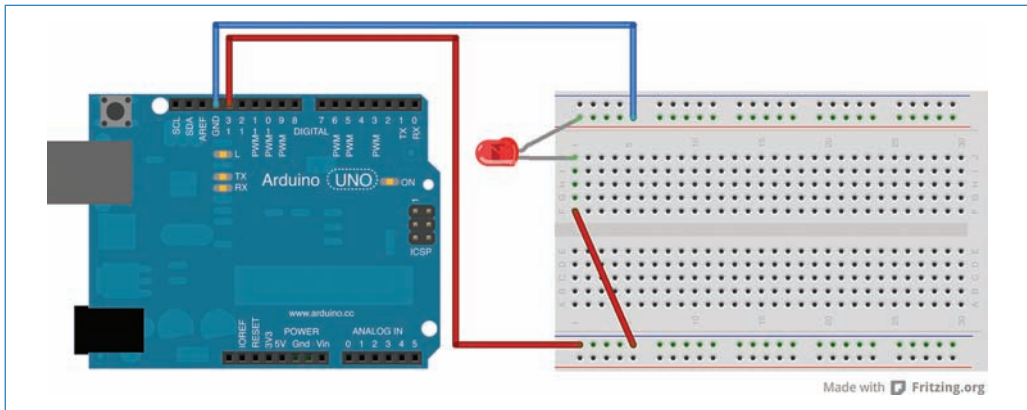

FIGURE 2.6 This Fritzing diagram shows you how to wire up your breadboard.
The following instructions tell you how to set up your breadboard. With this project, and throughout the book, I use an electronic visualization program called Fritzing (fritzing.org) to show you how to wire up your circuits. You can see a sample in Figure 2.6. Chapter 8, “Tool Bin,” explores Fritzing in more detail.
2. Plug in a wire to one of the Arduino’s GND ports (in Figure 2.6, the wire is plugged in to the GND next to port 13). The other end of the wire can plug in anywhere in the ground terminal bus. I have it in the fifth row.